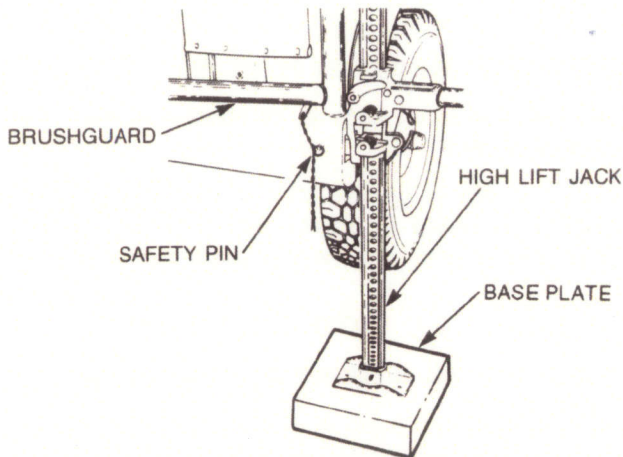

Figure 2-5 High lift jacking position
- b. Place the jack on a base plate, then position the jack lifting tongue in the appropriate jacking aperture and insert the safety pin and retaining clip (see Fig. 2-5).